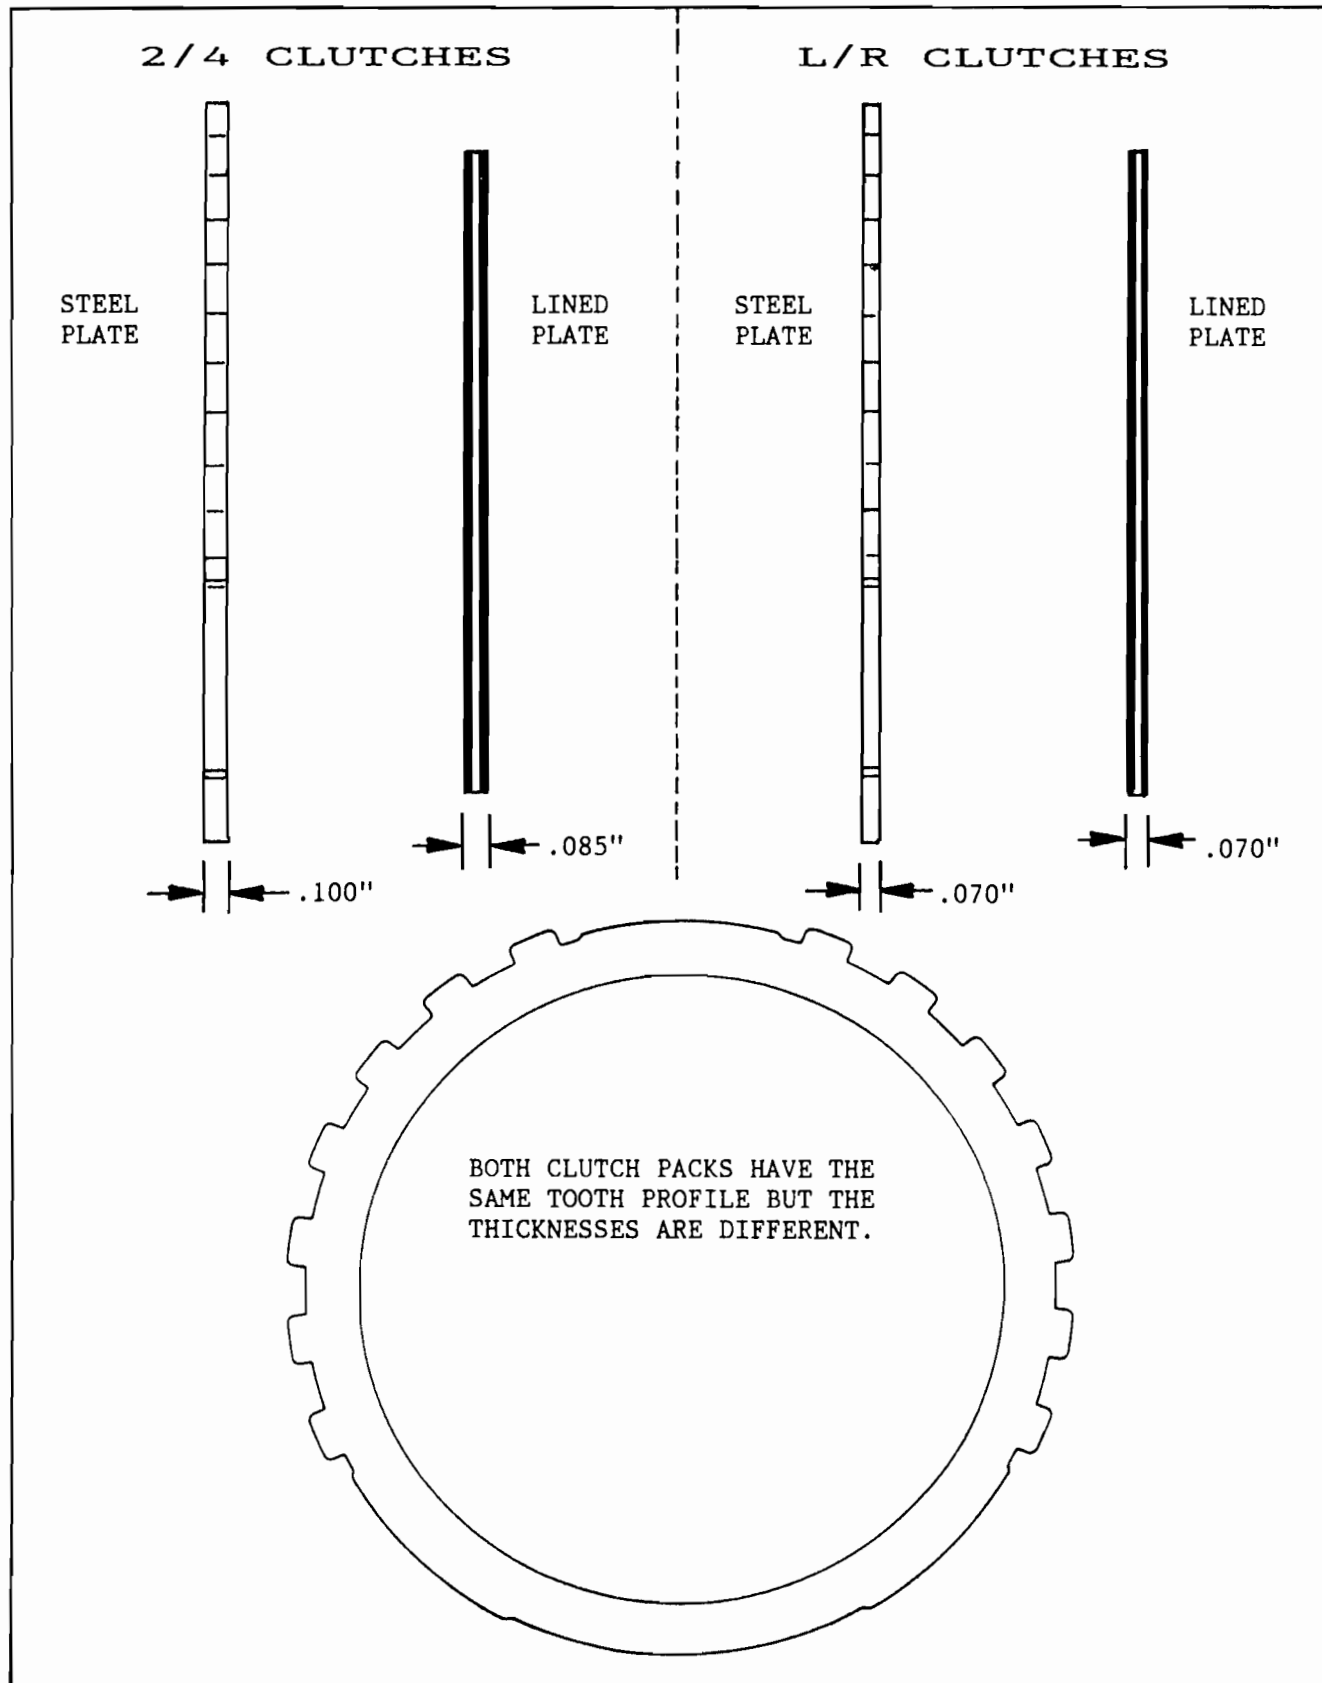

Figure 49
- (1) Both clutch packs, on the steel plates, have the same profile, but the thicknesses are different (See Figure 49).
- (2) Both clutch packs, on the lined plates, have the same tooth count and the same lining, but the thicknesses are different (See Figure 49).